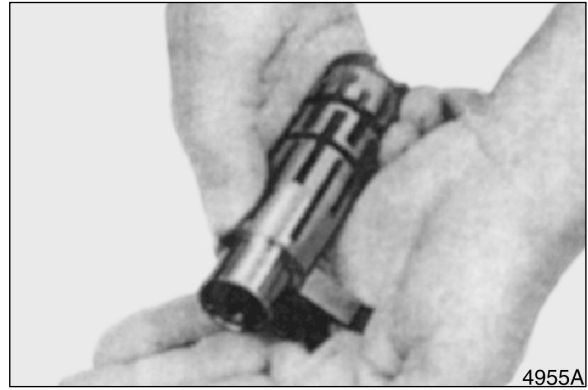

Figure 25
17. Push neutral position springs out of groove in spool. See Figure 25.